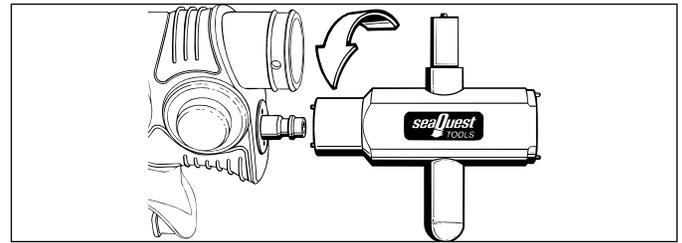

Figure 2
1.1.7 Mate the pins on the small end of the Air Source T-Tool (P/N 42314) into the bore holes on both sides of the quick disconnect fitting(1). While holding the tool securely engaged, turn the fitting counter-clockwise to loosen and remove (see Fig. 2). Inspect the fitting for any signs of damage, and set it aside to be reused if none are found.